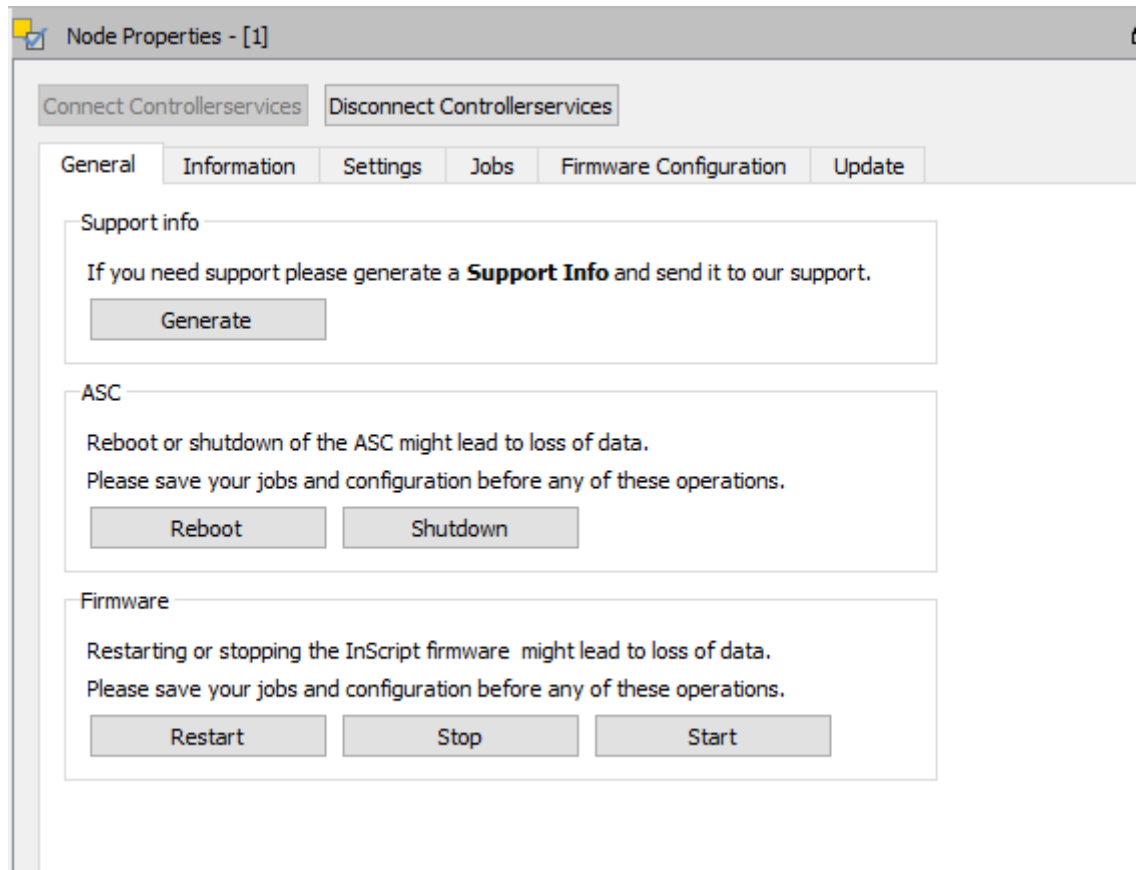

Figure 26.1: Controller services window - General tab
- In the NodeProperties windows click on **Connect ControllerServices** See figure 26.1 on page 152.